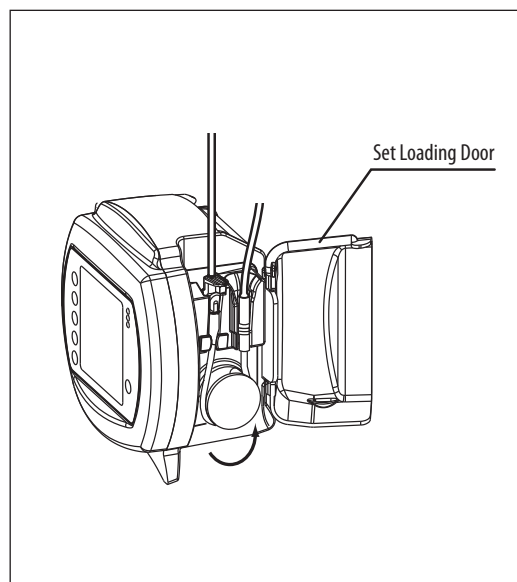

Figure 6B.
3. Grasp the MISTIC retainer end (black ring retainer) and wrap the tubing counterclockwise around the rotor. **Avoid overstretching the silicone tubing.** (Figure 6B)
4. Carefully pull the MISTIC retainer end upwards to position it over the slot on the right, and then lower the retainer into the slot. (Figure 6B)